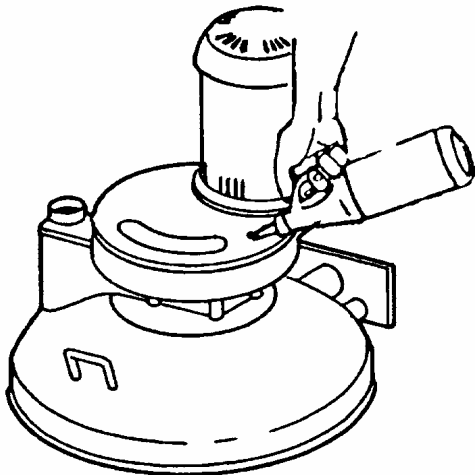

FIG. 19
3. If oil needs to be added, use quality 80-90 weight gear oil (Figure 19). Helpful hint: When checking the oil level in the gearbox, use a toothpick as a dipstick. The oil level should measure 3/8" deep.